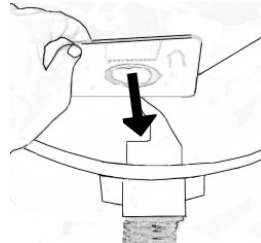

Fig. 25
1. Fit the dust bag's card with a hole into the bag holder, Fig. 25.